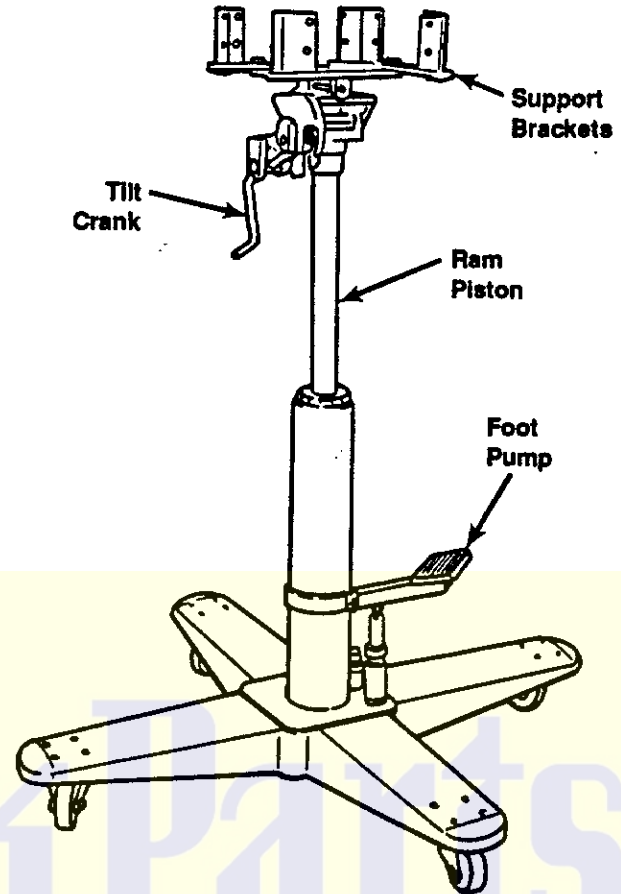

Figure 1
3. Raise the jack by operating the foot pump until the saddle touches the component. See Figure 1.